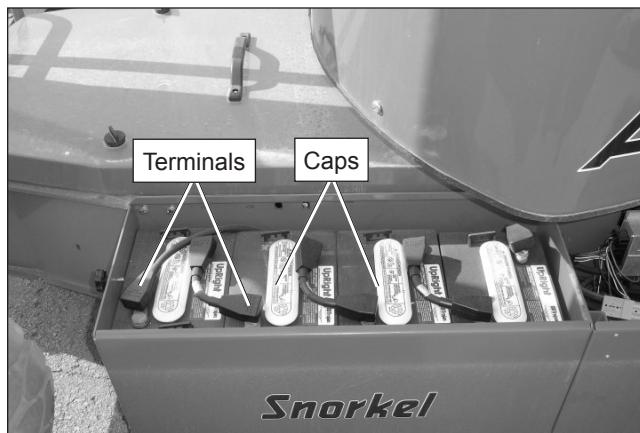

Figure 8.2 – Battery Tray
The batteries to power the machine are located in trays on each side of the aerial platform, refer to Figure 8.2.
1. Remove the caps from each battery (refer to Figure 8.2).
- Check the top of each battery, the terminals, and cable ends. They should be clean and free of corrosion (refer to Figure 8.2).